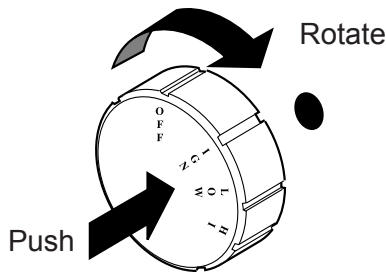

Figure 29 - IGN Position
6. From OFF position, push in gas control knob slightly and turn counterclockwise to the IGN position. See Figure 29. Push in and hold control knob for 5 seconds.